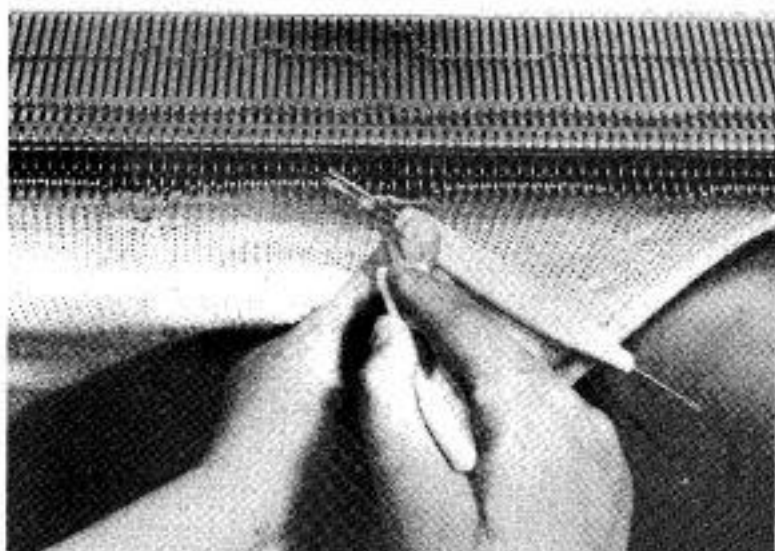

Fig. 56
4. Place the two stitches from the second tool onto the first two empty needles. These two sets of two stitches will now be crossed over each other. (Fig. 56)